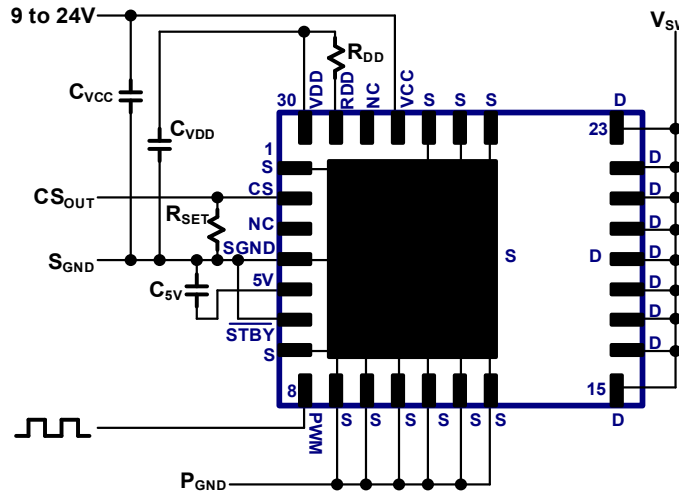

Fig. 20. IC connection diagram
The typical connection diagram for this GaN Power IC is shown in Fig. 20. The IC pins include drain of the GaN power FET (D), source of the GaN power FET (S), IC supply ( $V_{CC}$ ), gate drive supply ( $V_{DD}$ ), gate drive turn-on control SET input ( $R_{DD}$ ), PWM input (PWM), separate signal GND ( $S_{GND}$ ), current sensing output (CS), auto-standby mode input ( $STBY$ ), and 5V supply (5V). The Source pad and Source pins (S) should all be connected to the system  $P_{GND}$ .  $S_{GND}$  pin 4 must be connected directly to Source PAD underneath IC. The Source pins (S) should each be connected externally to the Source pad directly underneath the IC. The Drain Pins (D) should all be shorted together by copper in the layout (see Section 9). The external components around the IC include  $V_{CC}$  filter capacitor ( $C_{VCC}$ ) connected between  $V_{CC}$  pin and  $S_{GND}$  pin,  $V_{DD}$  filter capacitor ( $C_{VDD}$ ) connected between  $V_{DD}$  pin and  $S_{GND}$  pin, turn-on dV/dt set resistor ( $R_{DD}$ ) connected in between  $V_{DD}$  pin and  $R_{DD}$  pin, a current sense amplitude set resistor ( $R_{SET}$ ) connected between CS pin and  $S_{GND}$ , and auto-standby mode pin ( $STBY$ ) connected to  $S_{GND}$ . An external capacitor ( $C_{5V}$ , 0.01uF max) is required between pin 5V and  $S_{GND}$ . This 5V pin is for internal purposes only and must not be used for biasing external circuitry.